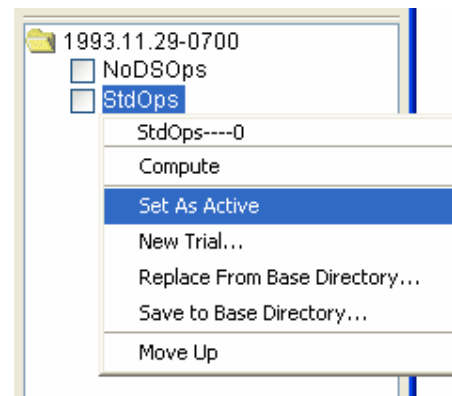

Figure 14.17 Simulation Control Panel Shortcut Menu: Set Alternative As Active
2. Select **Set as Active** from the shortcut menu (Figure 14.17).
To execute a Simulation, you must first set an Alternative as Active. Right-click on an Alternative in the Simulation Control Panel and, from the shortcut menu, select **Set as Active** (Figure 14.17).